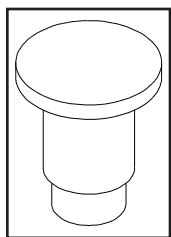

Figure 8:
Note: Before the bricks are installed, rivets (Figure 2) must be placed in the two (2) holes (shown in Figure 8) in the firebox that lag bolts came out of. This is done to make unit burn more efficiently.